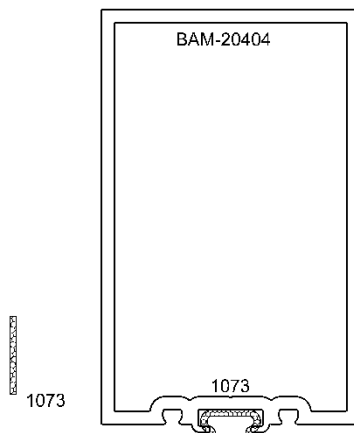

**FIGURE E.2**
5. Mask glass and system as required. (FIGURE E.2)